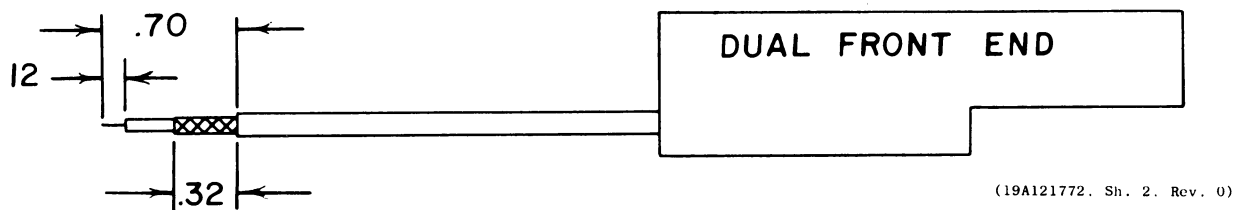
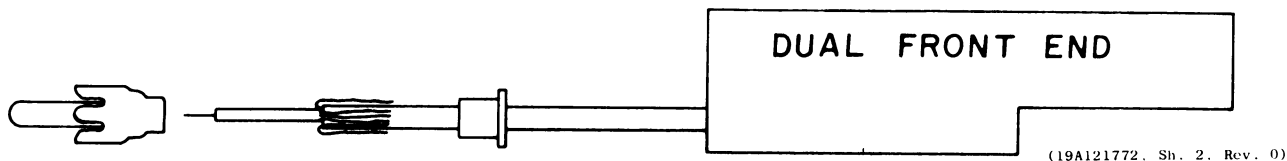

Figure 11 - Stripping Lengths for DFE Cable
Figure 12 - Assembling Phono Connector on DFE Cable
3. Strip the cable as shown in Figure 11 and solder the phono connector onto the cable as shown in Figure 12. Be sure that the center conductor is even with the tip of the phono conductor.